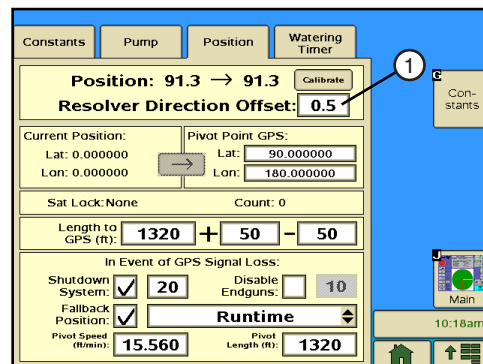

Figure 35-1 1. Resolver Directional Offset Field
1. Push **Setup, Constants, Position** to display the Position settings. Refer to Figure 35-1.